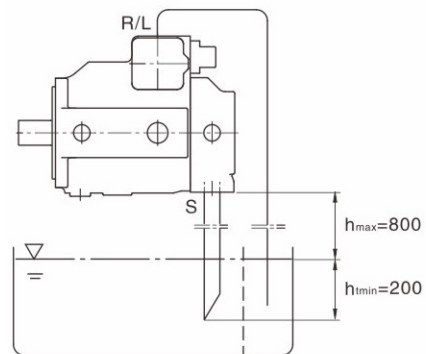

Figure 4
- When the minimum level in the tank is lower than the upper end of the pump, the drain port and possible port S must be connected with pipes. (See Figure 4). This situation is same as what is specified in (a) Mounting outside of the Tank in this section.
- For mounting on the tank, see Figure 4.